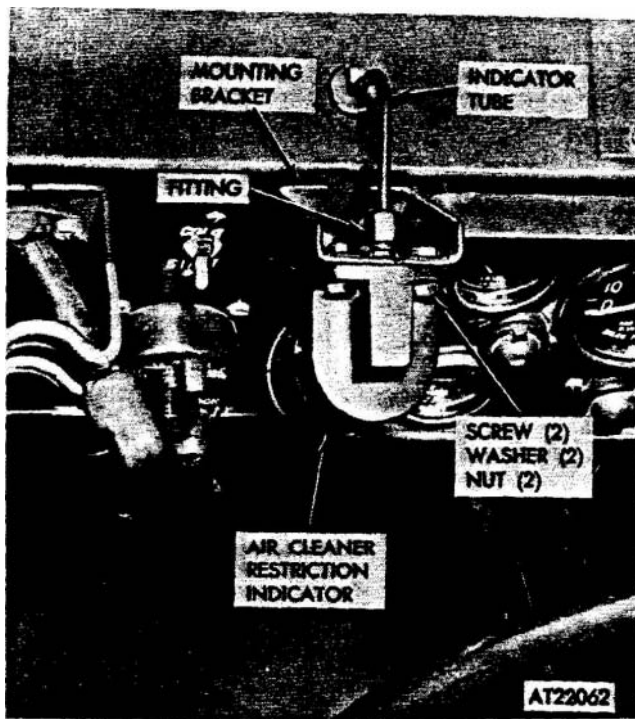

Figure 2-367. Air cleaner restriction indicator, removal and installation.
(1) Remove two screws, lock washer, and nuts securing indicator to cowl mounting bracket (fig 2-367).
(2) Hold indicator firmly and disconnect tube from indicator tube connector fitting.
(3) Remove indicator from mounting bracket. Remove fitting from indicator.
(4) Remove mounting bracket by removing two screws securing bracket to cowl.
- (1) Position mounting bracket over tube and to cowl. Secure bracket to cowl with two screws (fig 2-367).
- (2) Install fitting into indicator.
- (3) Secure tube nut to indicator fitting.
- (4) Position indicator to mounting bracket and secure with two screws, lock washers, and nuts.
- (5) Test indicator (c. below).